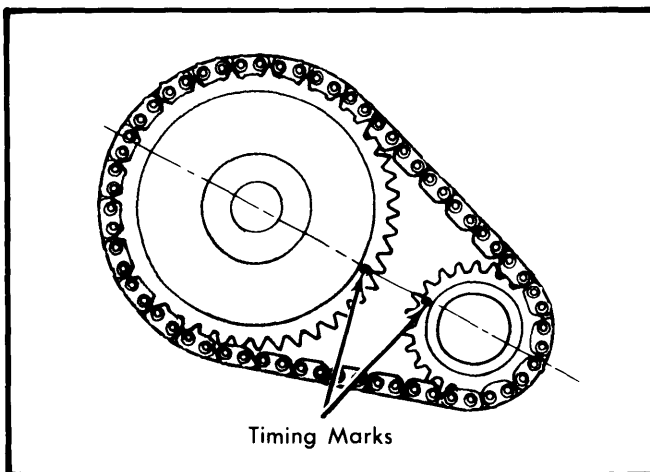

Fig. 13 Timing Chain Sprocket Alignment
**Removal & Installation** – Remove camshaft sprocket attaching bolt and remove timing chain with camshaft sprocket. Turn crankshaft to line up centerline of camshaft and crankshaft with the timing mark on crankshaft sprocket See Fig. 13. Install camshaft sprocket and timing chain with timing marks aligned. Tighten camshaft sprocket bolt.